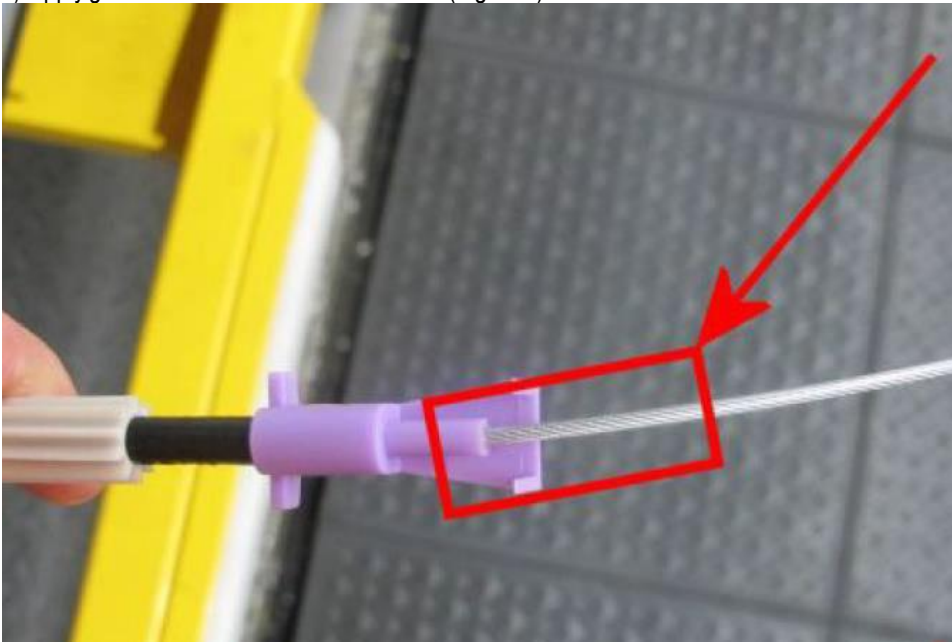

Figure 3
3) Apply grease to the latch motor inner cable (Figure 3)